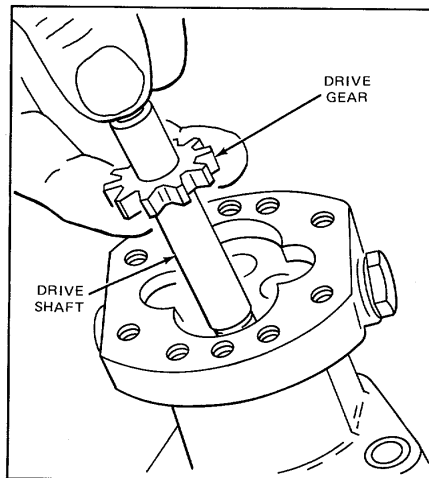

Figure 8. Installing Fuel Pump Drive Shaft and Gear Assembly
4. Lubricate the pump shaft and insert the square end of the shaft into the opening at the gear side of the pump body and through the oil seals as shown in Fig. 8.